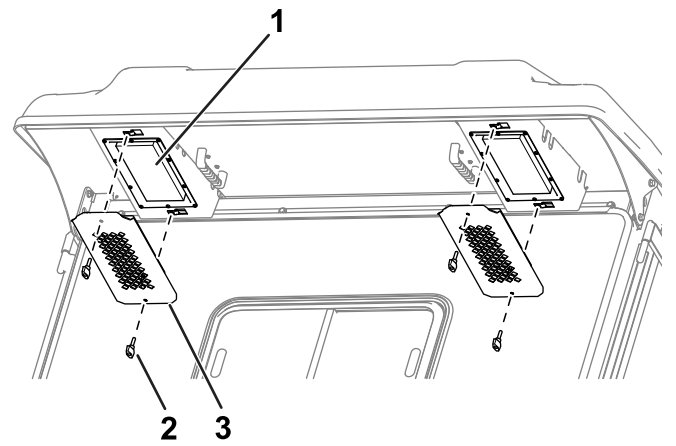

Figure 84
1. Remove the knobs and grates from the cab rear overhang (Figure 84).
4. Use the knobs and grates to install the filters into the cab (Figure 84).